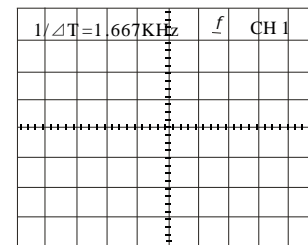

Fig.5-4
5.2.1.2.1 $1/\Delta T$ measurement (See Fig.5-4)